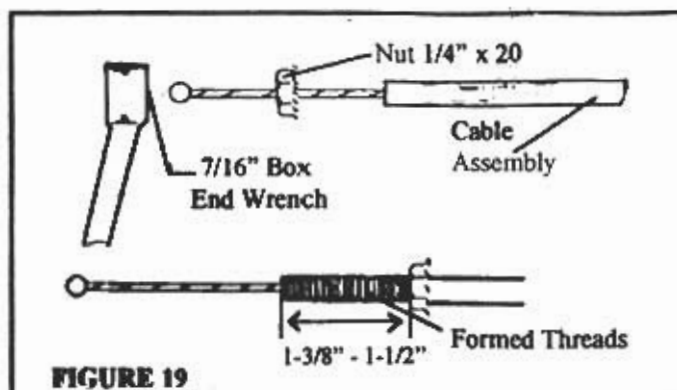

FIGURE 19
1. To use the Snap-In Adapter, it will be necessary to form threads on the end of the Cable Assembly. This is easily accomplished by placing the 1/4" - 20 Nut on the end of the Cable Assembly with your fingers. Then use a 7/16" box end wrench and turn clockwise until the desired amount of threads have been formed. (Figure 19)
3. Before using the 1/4"-20 Nut, remove the Adjustable Sleeve from the Cable Assembly. Then use the 1/4"-20 Nut to form threads on the end of the Cable Assembly. This is easily accomplished by first placing the 1/4" - 20 Nut on the end of the Cable Assembly with your fingers and then use a 7/16" box end wrench and turn clockwise until the desired amount of threads have been formed. (Figure 19, page 14)
1. To use Threaded Tube Clamp, it will be necessary to form threads on the end of the Cable Assembly. This is easily accomplished by first placing the 1/4" - 20 Nut on the end of the Cable Assembly with your fingers and then use a 7/16" box end wrench and turn clockwise until the desired amount of threads have been formed. (Figure 19, page 14 )